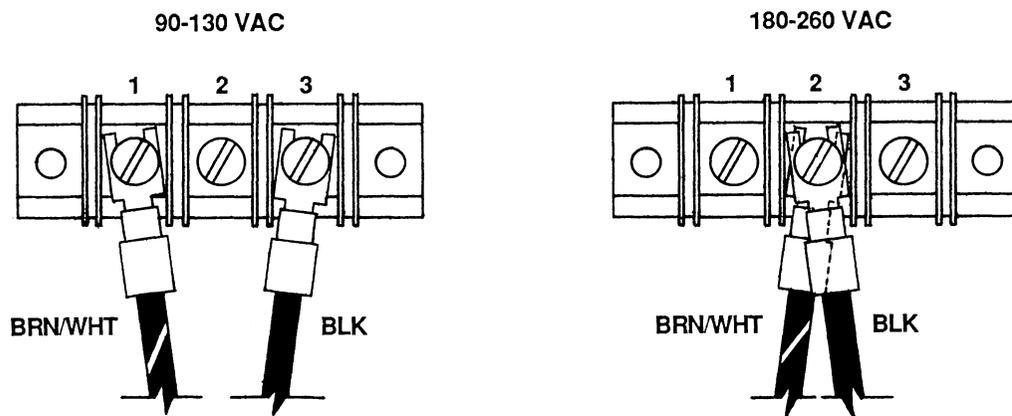

Figure 3-7 Voltage Selector Block Detail
Mains voltage selection for the MS 1000A is a simple operation which may be performed in the field. Refer to Figures 3-7 and Appendix A, and follow these steps:
4) Wire the terminal block as shown in Figure 3-7.